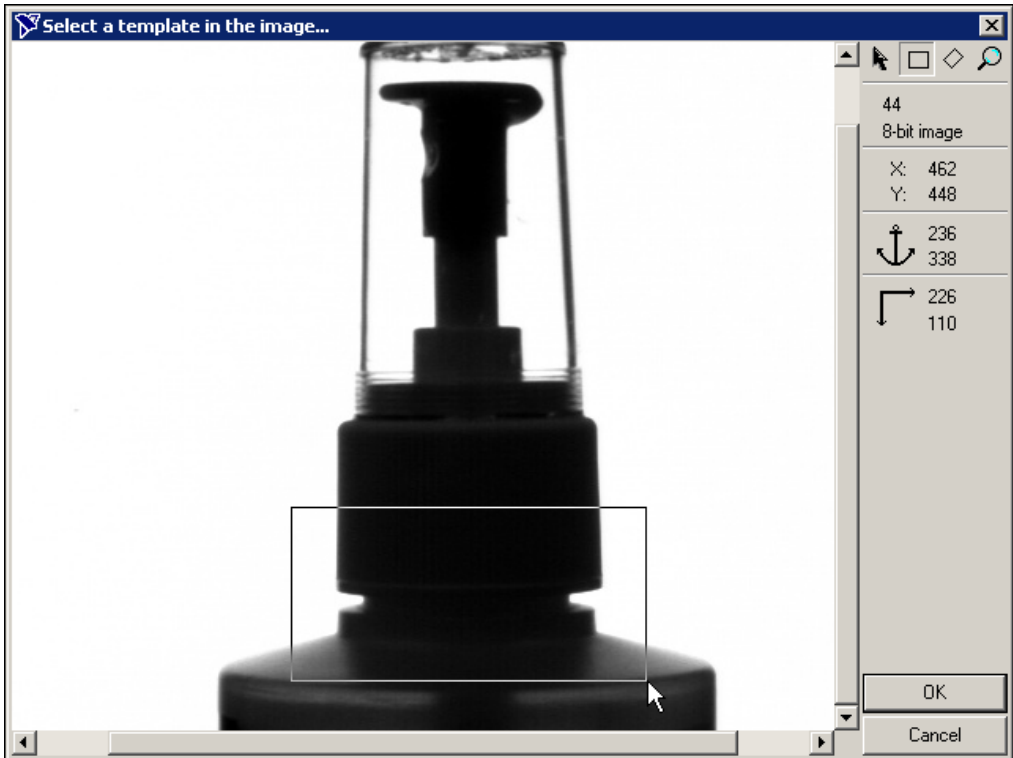

Figure 2-1. Creating a Template Pattern
3. Draw an ROI around the base of the sprayer, as shown in Figure 2-1. This region becomes the pattern matching template.